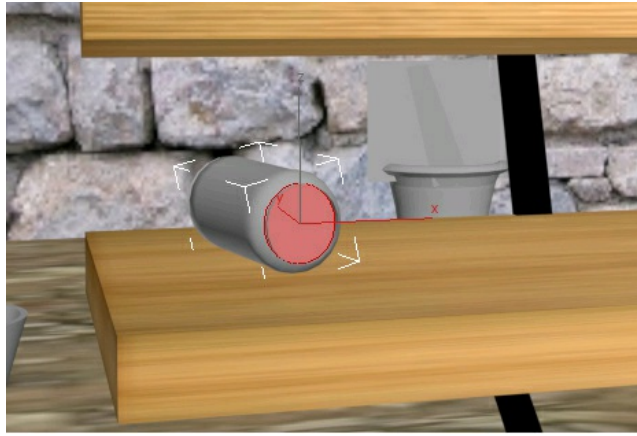

Figure 7-104 Selected polygon of can
14. Click on the cap of *can*; a polygon is selected, as shown in Figure 7-104. Next, enter **2** in the **Set ID** spinner of the **Polygon: Material IDs** area, if not already set.